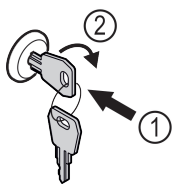

Fig. 191 Example illustration
- ▶ Insert key *Fig. 191 (1)*.
- ▶ Turn key clockwise by 90° *Fig. 191 (2)*.